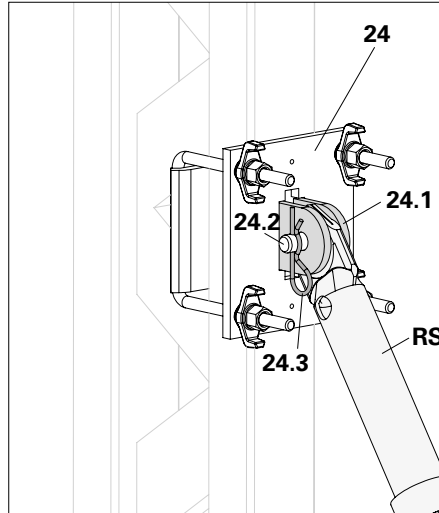

Fig. A6.05
- Install the girder headpiece (24) within the girder: connect the Push-Pull Prop (RS) to connection lugs (24.1) using bolts (24.2) and cotter pins (24.3). (Fig. A6.05)